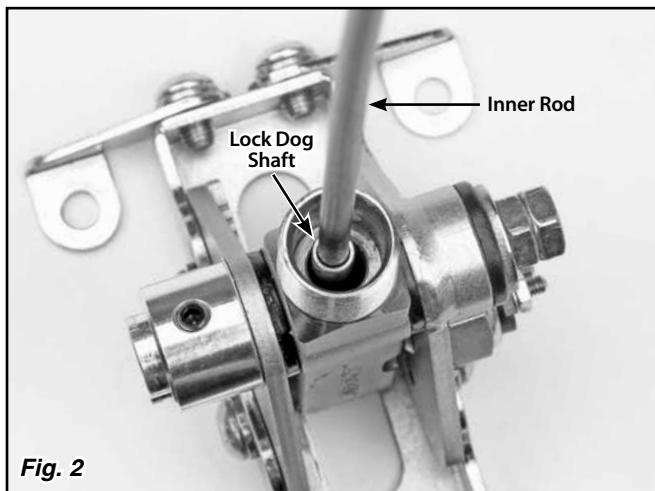

Fig. 2
Step 5: Place the bottom end of the new inner rod into the hole in the top of the lock dog shaft in the shifter. Push down on the inner rod until it bottoms out in the lock dog shaft. **Make double sure the inner rod is FULLY seated in the lock dog shaft! Fig. 2**